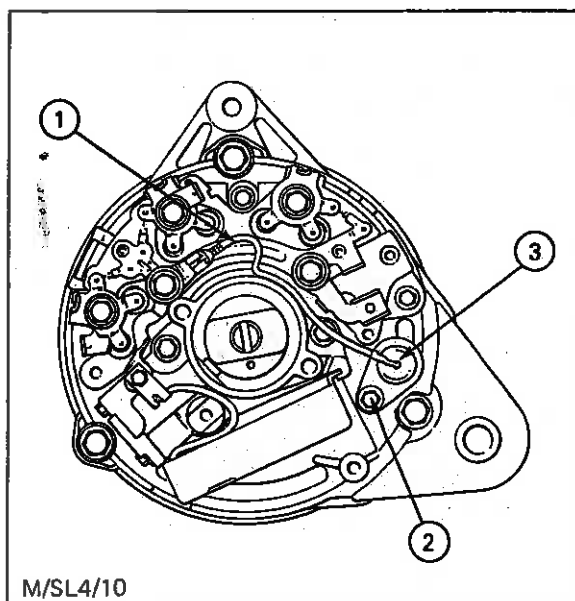

Fig. 13 - Removing the Surge Diode
2. Disconnect lead (1), remove screw (2) and detach the surge diode (3) - see Fig. 13.